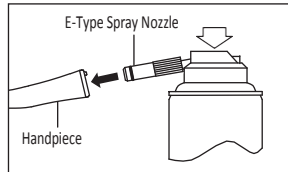

Fig.15
2) Insert the Spray Nozzle into the rear of the handpiece. Hold the handpiece and spray 2-3 times for approximately 2-3 seconds each time. Apply lubricant until it expels from the handpiece head for at least 2 seconds (Fig. 15).
- 3) Lubricate handpiece by using BeyesLube® SPRAY (Fig. 15) or Beyes automatic handpiece cleaning and lubrication system.